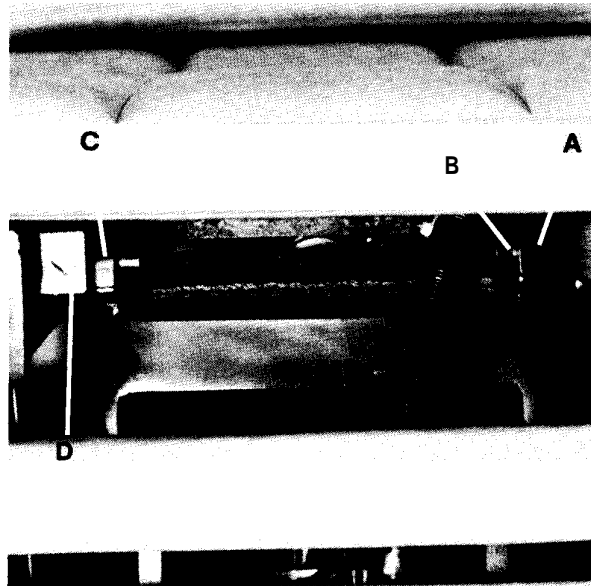

Fig. 4
7. Inspect the pivot frame pivots, Item A, Fig. 4. The pivot bolt, Item B, Fig. 4 should not turn as the pivot frame rotates. Also, the pivot frame should be centered between the pivots with equal spacing, Pt. C, Fig. 4 at each pivot.
- a. remove the set screw, Item D, Fig. 4 with a  $\frac{5}{64}$ " allen wrench.
- b. remove the pivot bolt, Item B, Fig. 4 with a  $\frac{5}{16}$ " allen wrench.
- c. apply Loctite #271 to the threads of the pivot bolt and replace the bolt in the pivot, making sure the pivot frame is centered between the pivots with equidistant spacing, Pt. C, Fig. 4 at each pivot.